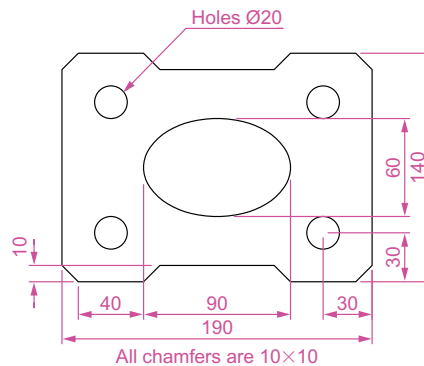

Fig. 17.19 First example – 2D outlines in 3D space
2. On this **3point** UCS construct a 2D drawing of the plate to the dimensions given in Fig. 17.19, using the **Polyline**, **Ellipse** and **Circle** tools.